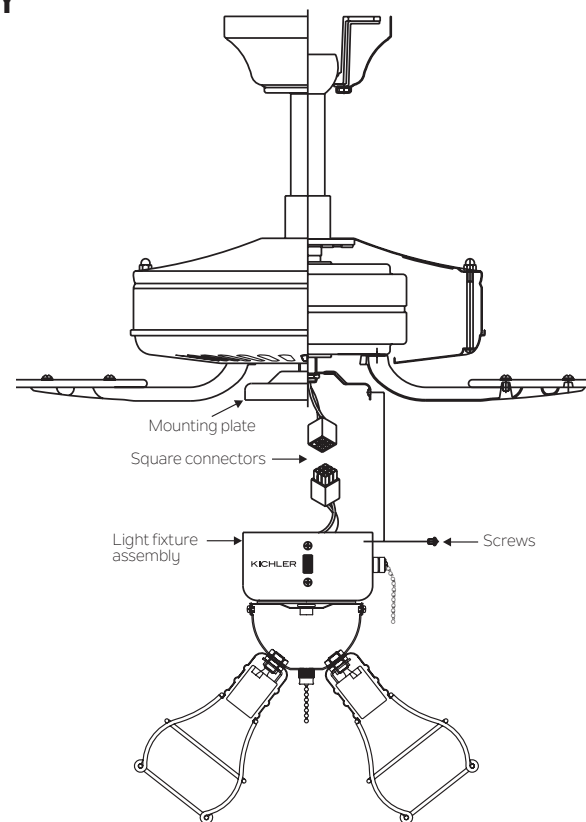

Fig. 2
4. Raise and hold the light fixture assembly close to the mounting plate of the ceiling fan. Push the square wire connectors together. (Fig. 2)
5. Carefully push all wires back into the switch housing, then install the light kit assembly onto the mounting plate with 3 screws provided. Be sure to tighten all screws. (Fig. 2)